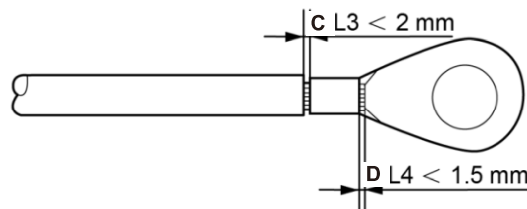

Figure 5.13 Strip wire
4. Insert the stripped wire into the OT terminal crimping area and use the hydraulic clamp to crimp the terminal to the wire (see Figure 5.13).